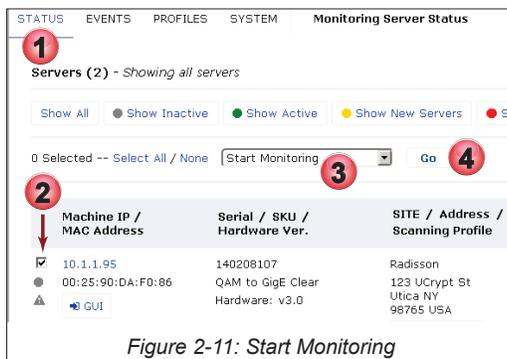

Figure 2-11: Start Monitoring
1. Click the **Status Tab** if it is not already selected, Figure 2-11.